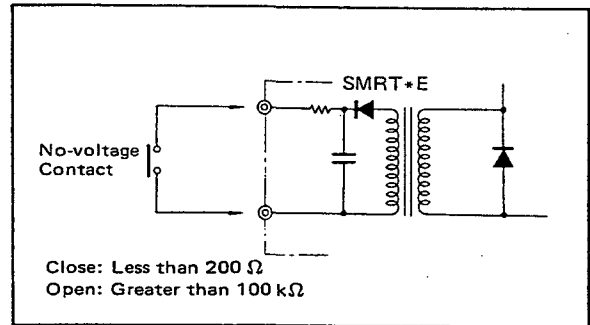
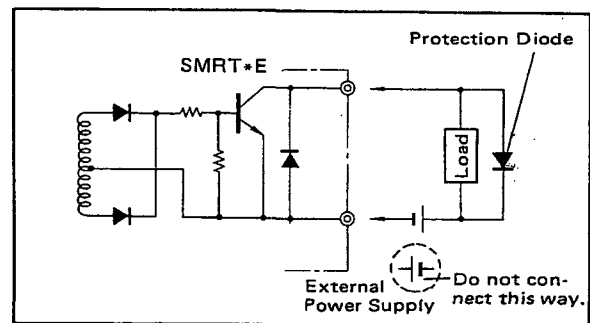

Figure 3-1. External Contact Input Connections.
Figure 3-3. Contact Output Connection to External Load.
- (1) Furnish all cable ends with solderless crimp-on lugs.
- (2) Connect external voltage-and/or no-voltage-levels contact input so that the values specified in Figures 3-1 and 3-2 are obtained. Conductor resistance and consequent voltage drop must be taken into account. For contact input specifications, refer to GS 1B4D4-E at the end of this manual.
- (3) When driving remote equipment such as fail and alarm outputs, using transistor switch contacts, wire in accordance with the following instructions.
- Connect a protection diode (surge absorber) in parallel with inductive loads such as relays when energizing or deenergizing external circuits. (See Figure 3-3).
- Match the power polarity to the terminal markings when connecting the power supply used to drive the external equipment. (See Figure 3-3).